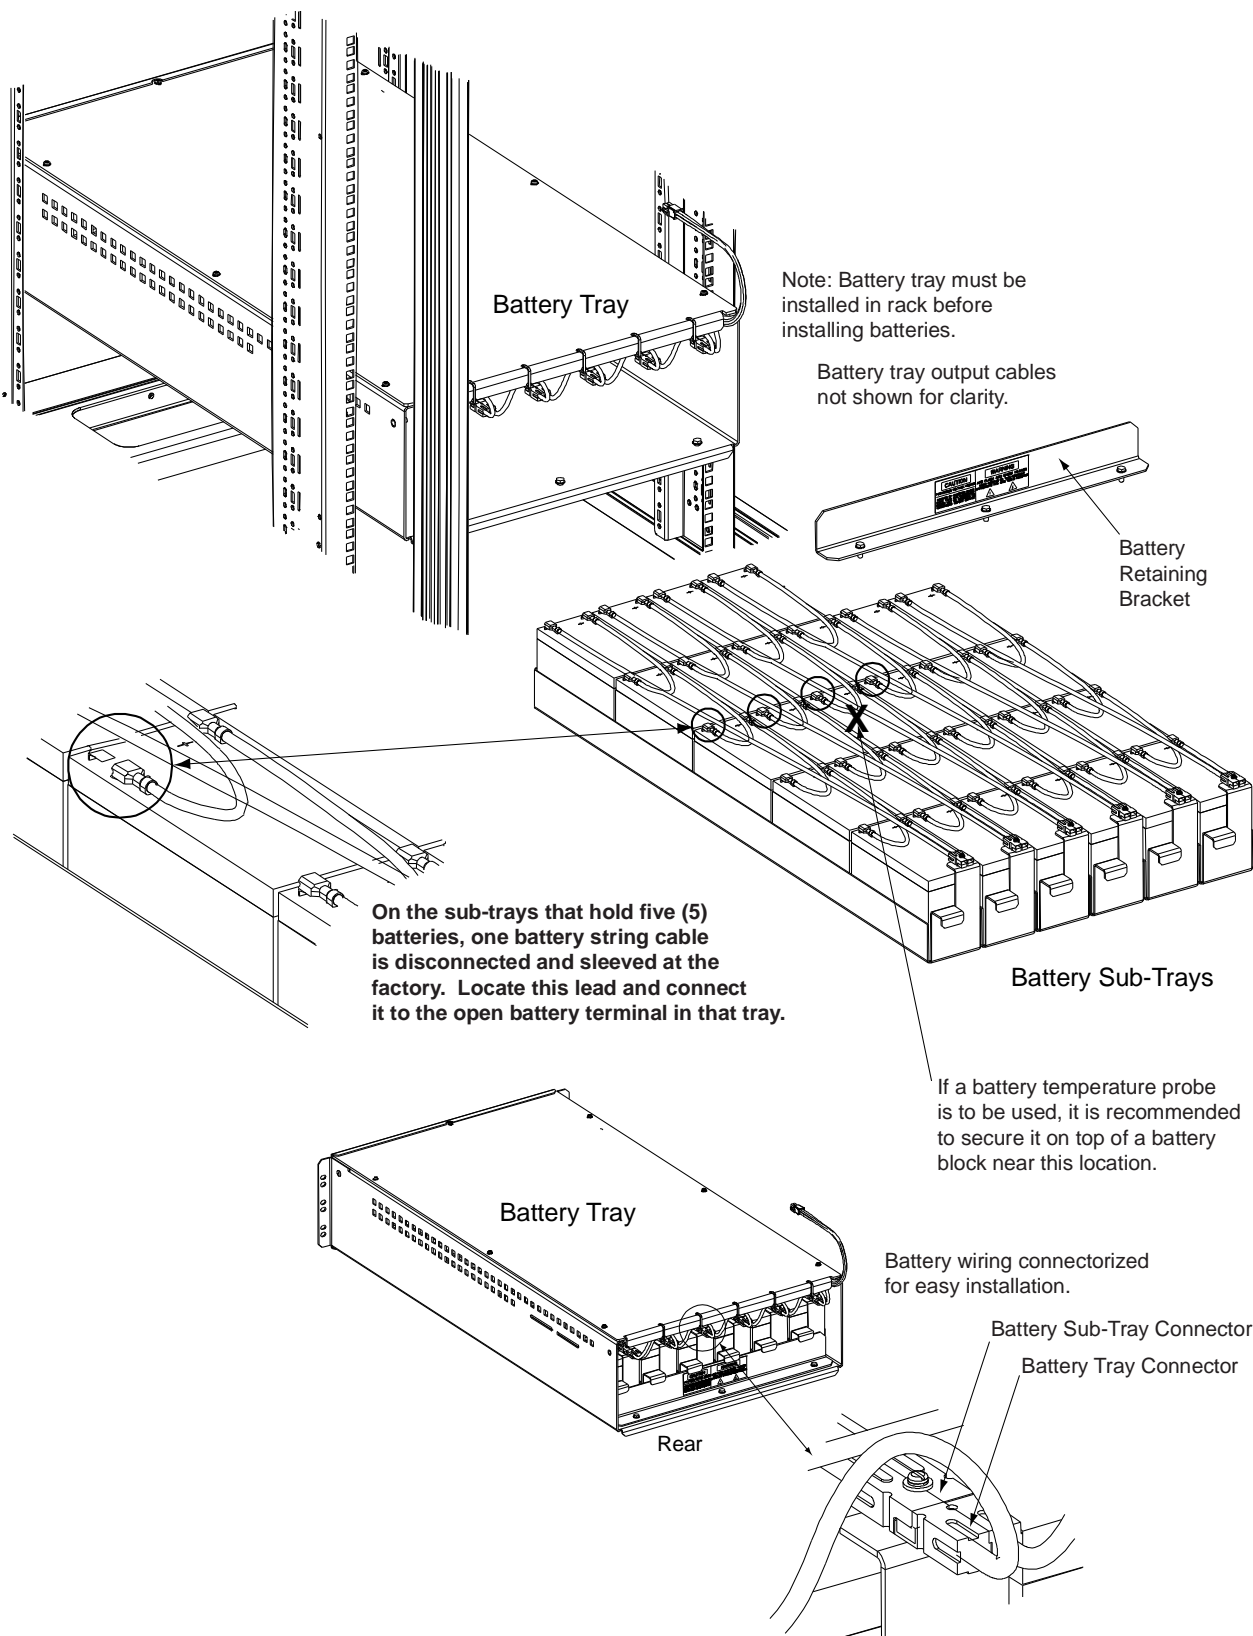

Figure 3-12
Refer to Figure 3-12 as this procedure is performed.
- 4) In the battery sub-trays that hold five (5) batteries, one battery string cable is disconnected and sleeved at the factory for transportation. Locate this lead and connect it to the open battery terminal in that tray. See Figure 3-12.
- a) Battery sub-trays contain either four (4) or five (5) pre-wired battery blocks. Note that the minimum acceptable voltage of a single battery block is 11.5V DC. So, acceptable voltage of a battery sub-tray with four (4) battery blocks is  $11.5V \times 4 = 46V$  DC. Acceptable voltage of a battery sub-tray with five (5) battery blocks is  $11.5V \times 5 = 57.5V$  DC.
- 6) If a battery temperature probe is to be used, it is recommended to secure it on top of a battery block near the location indicated in Figure 3-12.
- **Recommended Battery Temperature Probe Location for Furnished List 91, 92 Battery Tray:** If a battery temperature probe is to be used, it is recommended to secure it on top of a battery block near the location indicated in Figure 3-12.